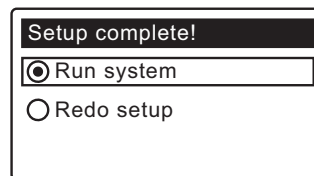

FIG. 19
- 12.** Press the SELECT (○) button. The screen will show “Setup complete!” (See Figure 19).
- 14.** If no changes are desired, make sure **Run system** has a black dot next to it (See Figure 19) and press the SELECT (○) button. The unit begins normal operation, described on the next page.